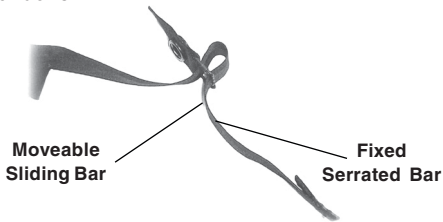

Figure 3-2. Lacing the Sliding Bar Buckles
1. Thread the strap from the inside of the buckle over the moveable sliding bar (see Figure 3-2). Thread the strap back through the buckle but this time under the sliding bar and over the serrated part of the buckle.